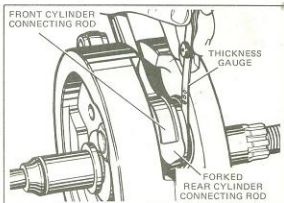

Figure 3-46. Checking Connecting Rod Sideplay
12. If it is impossible to true wheels, check for a cracked flywheel, damaged or enlarged tapered hole, or a sprocket or pinion shaft worn out-of-round at surface where indicator reading is being taken. When wheels are true, position in vise and draw crank pin nuts very tight using Crank Pin and Flywheel Nut Wrench, Part No. 94546-41, or use torque wrench and tighten to foot-pound reading given in "Engine Specifications." Check connecting rod side play with thickness gauge as shown in Figure 3-46. If it is greater than tolerance shown in "Engine Specifications," draw up crank pin nuts until within tolerance. Insufficient play between rods and flywheel face is caused by one of the following conditions: